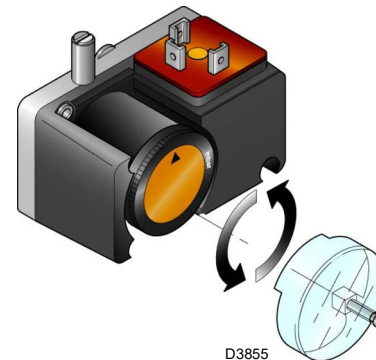

Fig. 50
- Adjust the minimum gas pressure switch (Fig. 50, pag. 41) to the start of the scale.
Adjust the minimum gas pressure switch (Fig. 50) after having adjusted the burner, the gas valves and the gas train stabiliser. With the burner operating at maximum output: